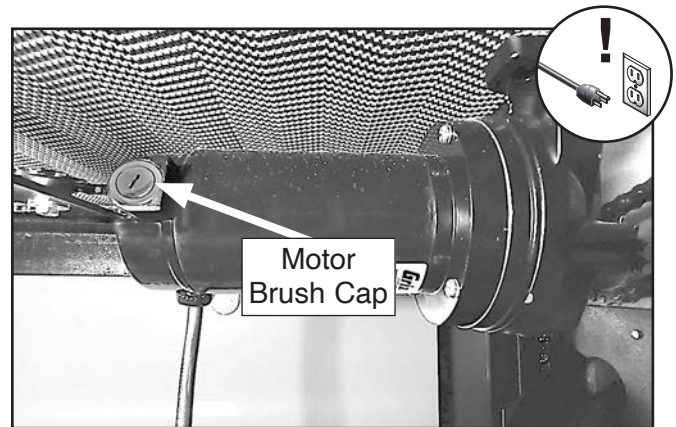

Figure 1. Location of motor brush cap.
3. Remove motor brush cap (see **Figure 1**) and motor brush from conveyor motor.